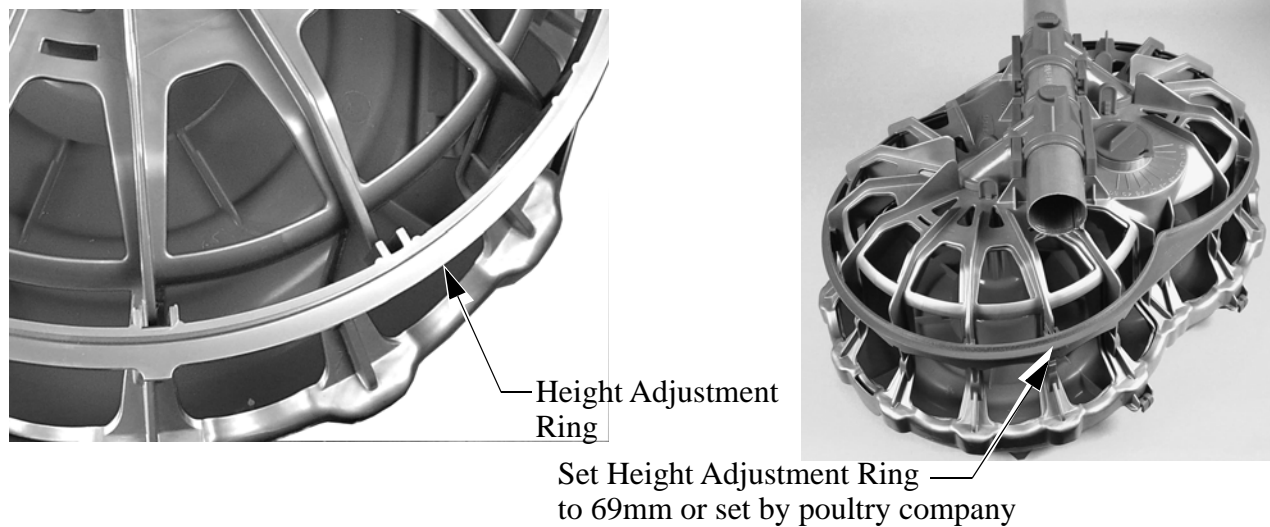

Figure 29. Adjustment Ring
5. Height Ring set to 69mm or recommended setting from poultry company. **See Figure 29.**